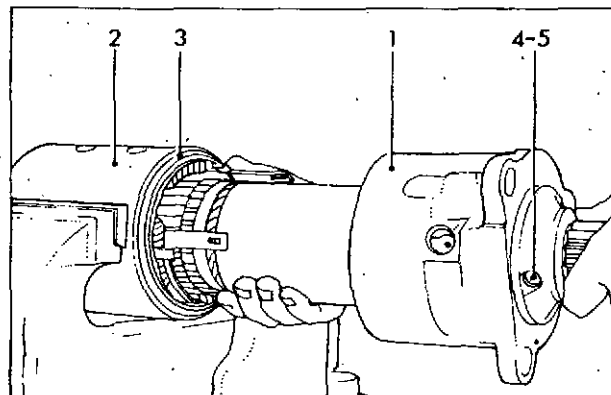
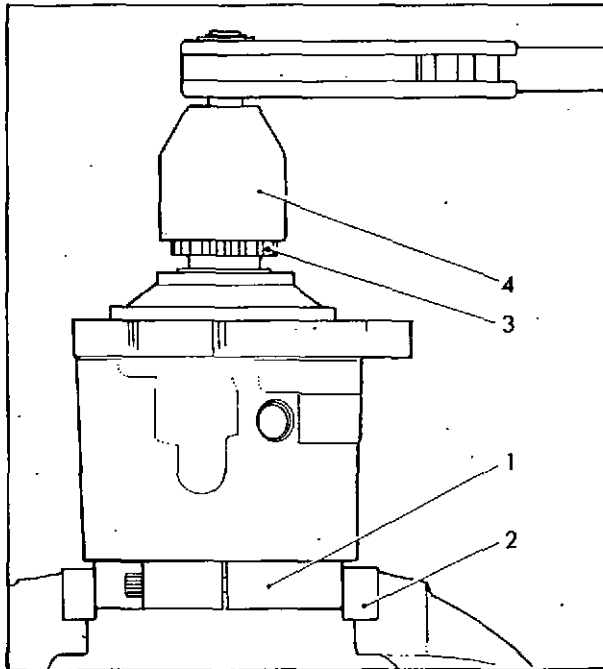

Fig. 4 Removing drive end shield
Fig. 5 Removing pinion sleeve
Drive end shield and pinion sleeve (fig. 4 and fig. 5)
Tap the drive end shield (1) fig. 4 away from the yoke, using a soft hammer, and withdraw it complete with armature. Support the unit as shown to avoid damaging the windings and commutator.
Slide the pinion sleeve together with the drive end shield off the armature shaft. Retain the eight 0.197 ins (5mm) steel balls. Place C.A.V. Tool No. 6244-50 over the trip plate boss and tighten the clamp screw to secure in position. Invert the complete assembly and clamp the tool (1) fig. 5 in the vice (2).